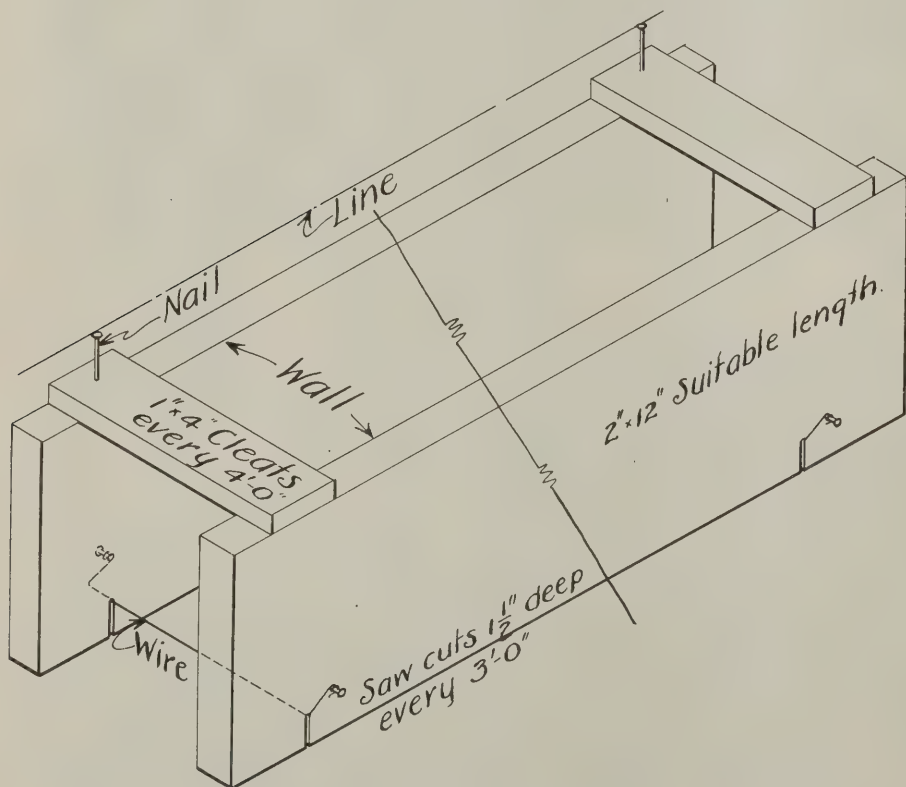

Fig. 1—Novel concrete form
J. R.B., of Yonkers, New York, solved the problem of increasing all heights as he shows in the following letter: Referring to Fig. 1. "This kink might be useful to a brother builder in case he runs up against the same problem I did. I had occasion to increase the height of a concrete retaining wall, and as the low side showed a drop of about 12 feet, it required in the ordinary way considerable form bracing. I finally thought of the scheme shown in the sketch.